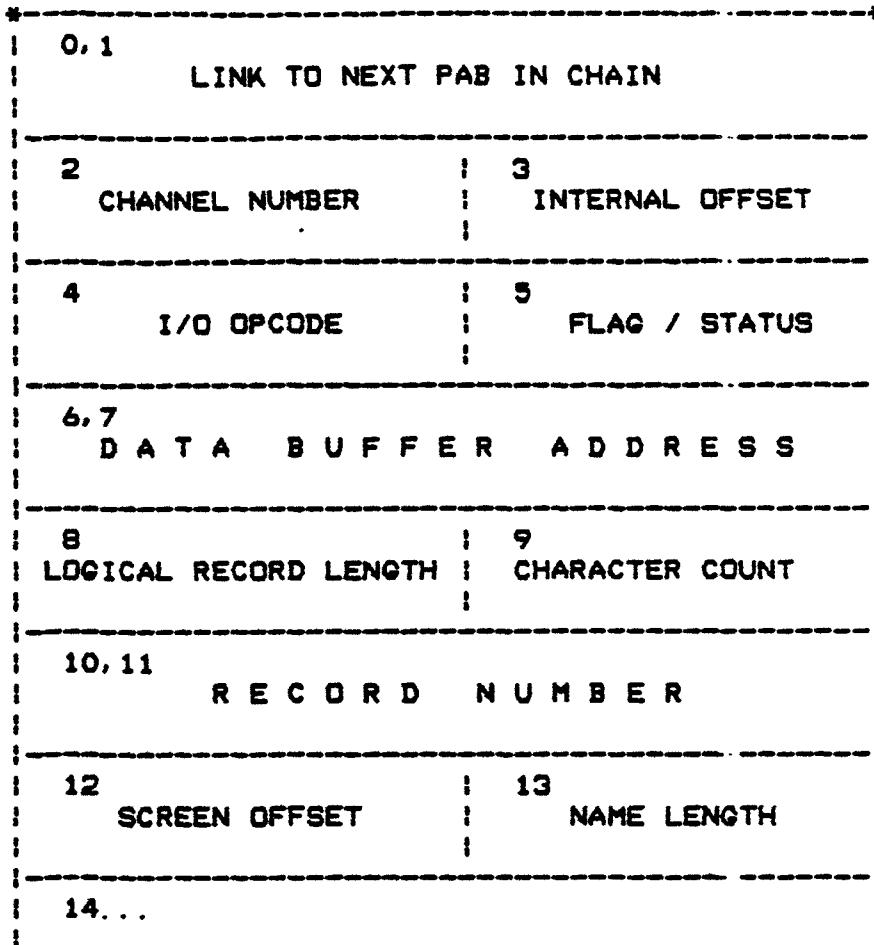

Figure 5-1 Modified PAB Layout
Aside from the control information contained within the PAB, as already discussed in section 3, BASIC adds four (4) more bytes to the top of the PAB for specific BASIC related control information. The new PAB structure within BASIC is drawn in Figure 5-1.